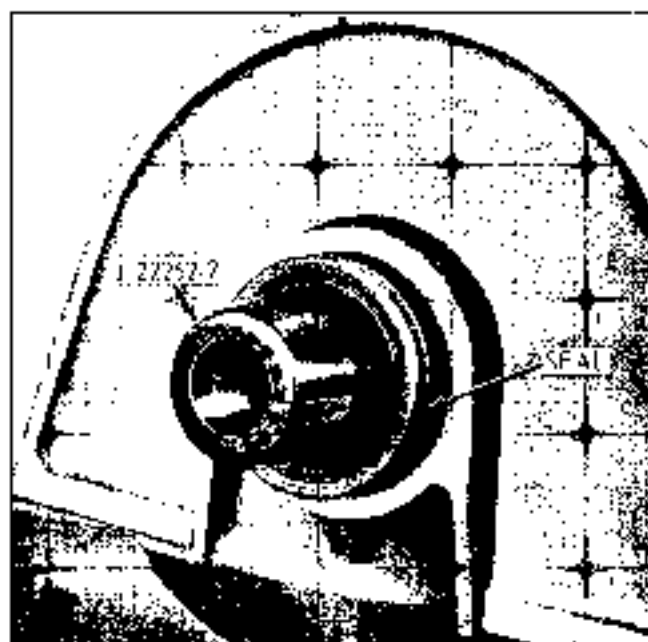

Fig. 6-14 Installing Camshaft Seal
3. Position camshaft seal on pilot J 22262-2 (Fig. 6-14).
4. Drive seal into position using J 22262-1 seal installer (Fig. 6-14).